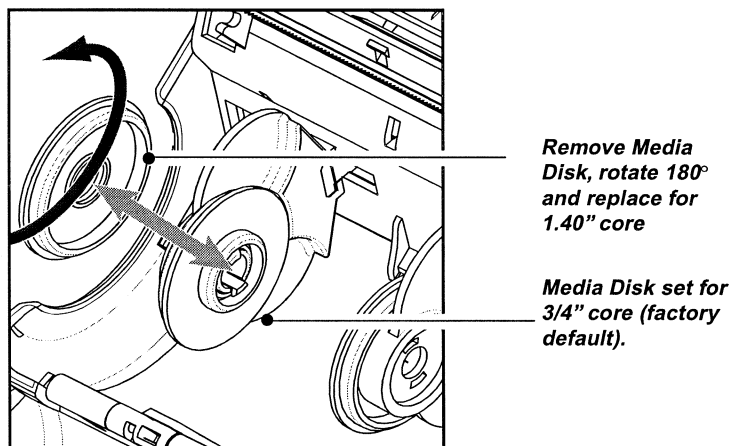

FIGURE 6
- Determine that the core diameter of the media roll matches the setting of the Media Disks. If it does not, adjust the media disks per Figure 6 below.